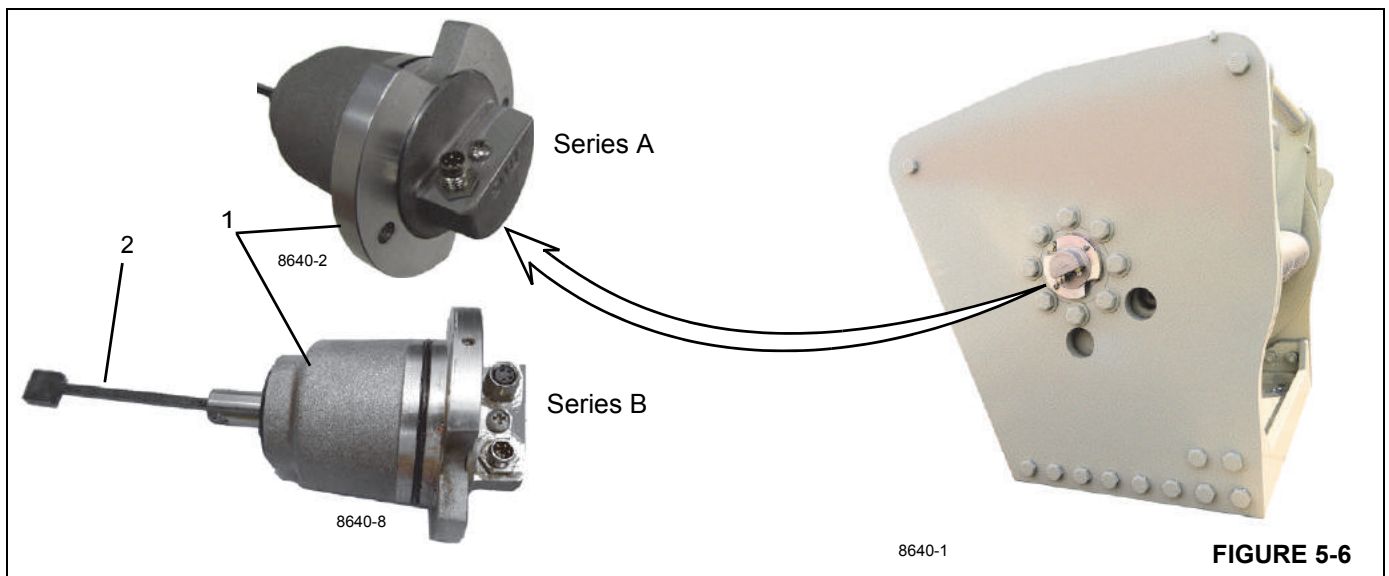

FIGURE 5-6
- Insert the DRI into the drum. Rotate the DRI (1, Figure 5-6) so that the DRI shaft (2) engages the drive inside the drum.